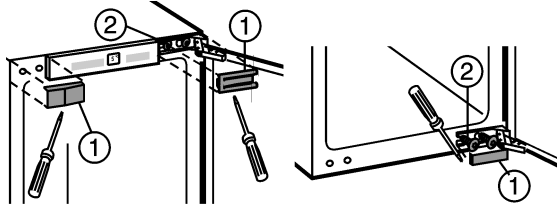

Fig. 1
- ▶ Lift off covers Fig. 1 (1).
- ▶ Only slacken fastening screws Fig. 1 (2).
- ▶ Transfer top and bottom fastening screws Fig. 1 (2) to the opposite side.
- ▶ Attach appliance door to the prefitted fastening screws Fig. 1 (2).
- ▶ Screw in mounting screws Fig. 1 (2) **tightly (4 Nm)**.
- ▶ Re-fit covers Fig. 1 (1).